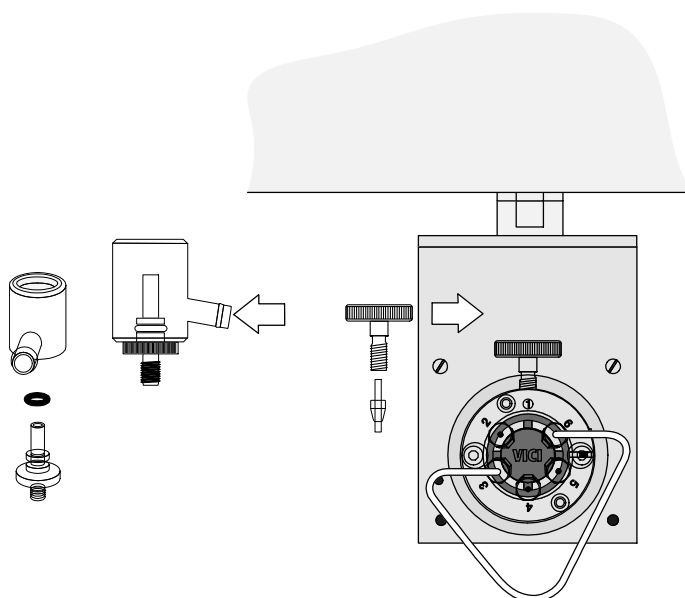

Figure 20. Installing the Standard Valve Needle Guide.
1. Connect the injection valve Waste Line from port 2 (example standard valve Cheminert type), as shown in Figure 20, to the front Waste Port of the Wash Station;